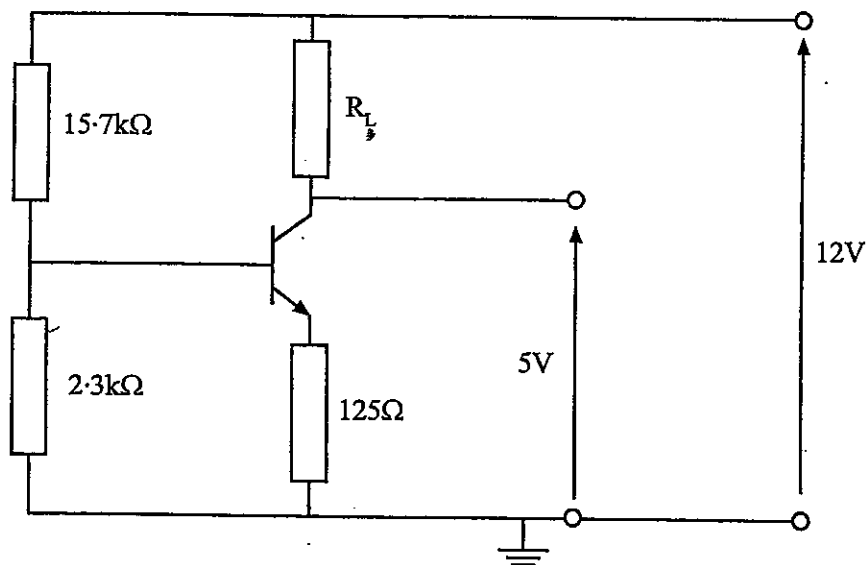

Fig Q3
- (d) Calculate the energy stored in the capacitor after 0.12 seconds of discharge. (2)
- (e) Sketch a graph showing the capacitor voltage over its charge/discharge cycle. (3)
3. The p.d. across the base-emitter junction of the transistor shown in Fig Q3 is  $0.65\text{V}$  and the output voltage is  $5\text{V}$ . Assuming that the base current is negligible:
- (i) the p.d. across the collector-emitter terminals of the transistor; (6)
- (ii) the value of the load resistor  $R_L$ ; (2)
- (iii) the power dissipated in the transistor; (2)
- (iv) the power taken from the  $12\text{V}$  d.c. supply. (2)
(b) redraw the diagram Fig Q3 showing the additional components required to convert it to an a.c. voltage amplifier, indicating the input and output voltage waveforms. (4)